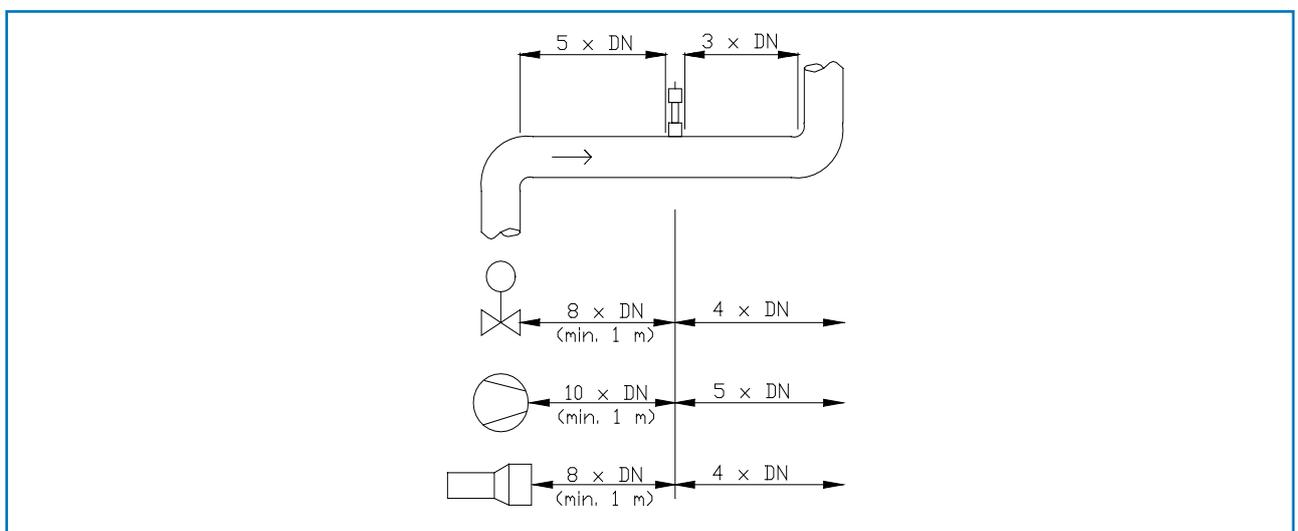

Fig. 4: Minimum distances of the measurement point from pipe geometries and fittings
- If the sensor is not installed immediately insert a dummy plug until it is installed (see also fig. 4). The dummy plug must be inserted together with the seal, two sealing rings and the circlips for shafts and secured using the union nut. Use a 32 mm open-ended spanner to tighten the union nut.